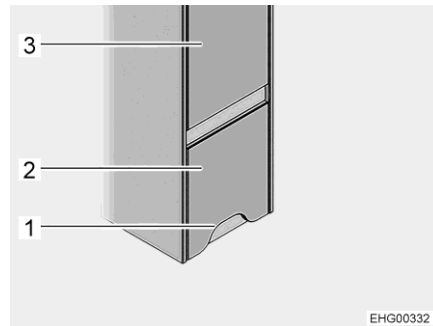
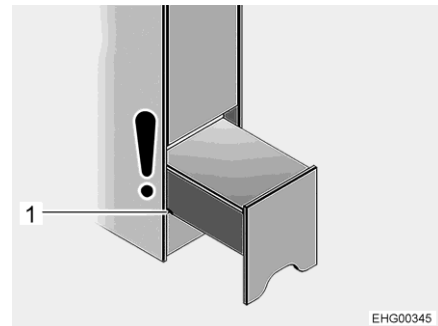

Fig. 77 Access assistance (closed)
Fig. 78 Access assistance (night position)
**Position** The access assistance has been installed on the right side of vehicle, underneath the wardrobe (Fig. 77,3) in front of the rear bed.
- ▷ The toilet compartment door is opposite to the access assistance. As long as the access assistance has only been pulled out partially ("night position", see Fig. 78), it is still possible to open the toilet door. If the access assistance has been entirely pulled out to obtain access to the storage compartment, it is no longer possible to fully open the toilet compartment door.
- Grab the access assistance (Fig. 77,2) by the cut-out (Fig. 77,1), lift it slightly and pull it out up to the first groove (Fig. 78,1) (night position).